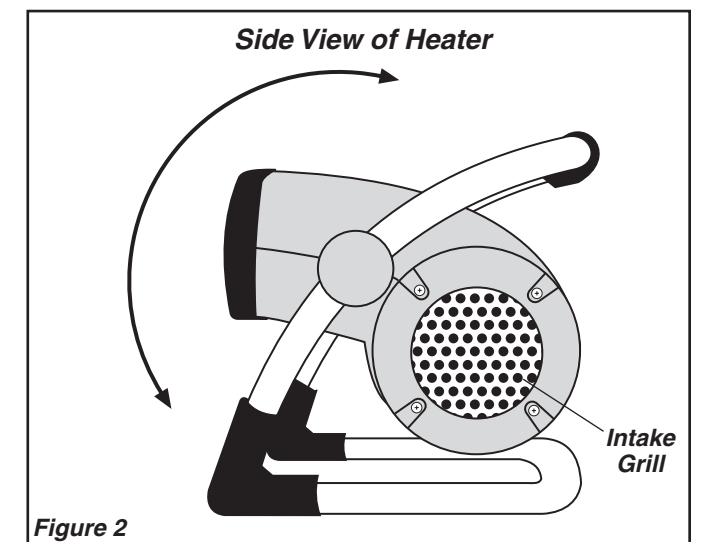

Figure 2
7. Move the **Power Knob** to the desired heat setting. High Heat (1500W) is represented by the (2) and Low Heat (900W) by the (1).
9. To adjust the angle of the Heater air flow, rotate the Heater body forward or backward to the desired position. (Figure 2)
11. To disconnect Heater, turn **Power Knob** to the "OFF" position (0), then remove plug from outlet.